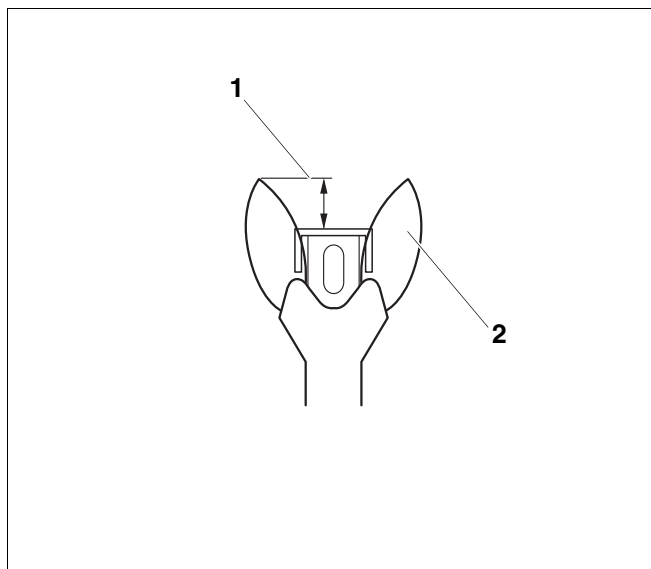
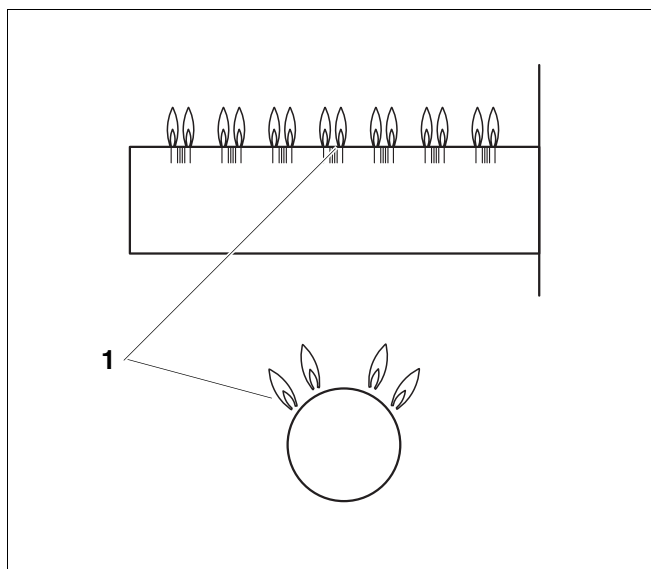

Fig. 31 Correct pilot flame setting
Fig. 32 Main burner
19. Test the safety switch by closing the gas valve. The main burner flame (→ Fig. 32) and the ignition flame (→ Fig. 31) are extinguished. After six (6) seconds at the most the main gas solenoid valve on the gas valve must close with an audible noise.